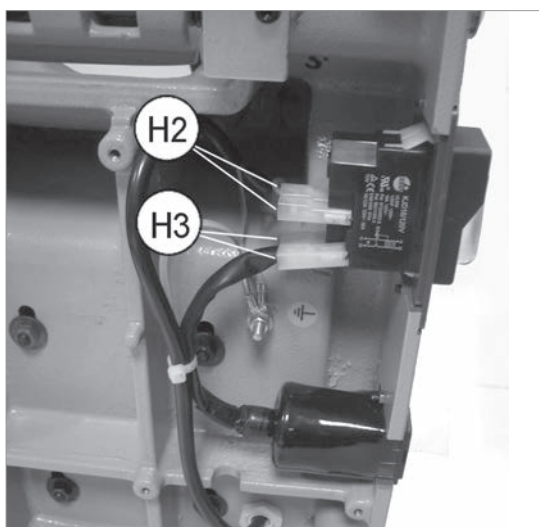

Fig. 37
- 2) Detach the 4 connectors (H2) and (H3) paying special attention to their position (Fig. 37).